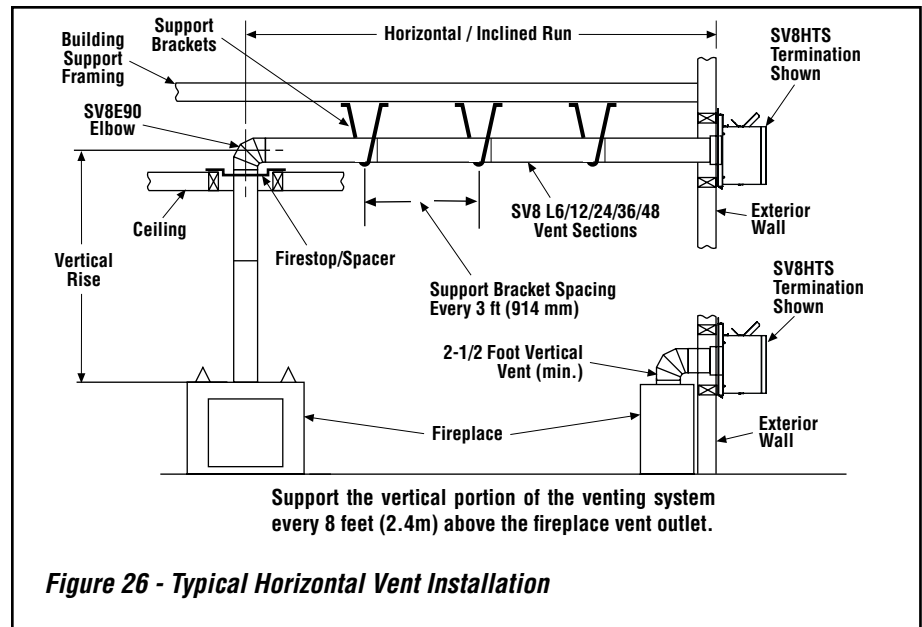

Figure 26 - Typical Horizontal Vent Installation
G. Continue installation of horizontal/inclined sections - Continue with the installation of the straight vent sections in horizontal/inclined run as described in **Step C**. Install support straps every 3 ft (914 mm) along horizontal/inclined vent runs using conventional plumber's tape. **See Page 17, Figure 26. It is very important that the horizontal/inclined run be maintained in a straight (no dips), slightly elevated plane.** The recommended incline is approximately 1/4" per foot (20 mm per meter) horizontal, in a direction away from the fireplace. The rise per foot run ratios that are smaller are acceptable all the way down to at or near level. Use a carpenter's level to measure from a constant surface and adjust the support straps as necessary.
See **Figures 26 - 31** and their associated Horizontal Vent tables that illustrate the various horizontal venting configurations that are possible for use with these appliances. **Secure Vent®** pipe applications are shown in these Figures. A Horizontal Vent table summarizes each system's minimum and maximum vertical and horizontal length values that can be used to design and install the vent components in a variety of applications.
See **Figure 26**, *It is very important that the horizontal/inclined run be maintained in a straight (no dips), slightly elevated plane. The recommended incline is approximately 1/4" per foot (20 mm per meter) horizontal, in a direction away from the fireplace. The rise per foot run ratios that are smaller are acceptable all the way down to at or near level.*